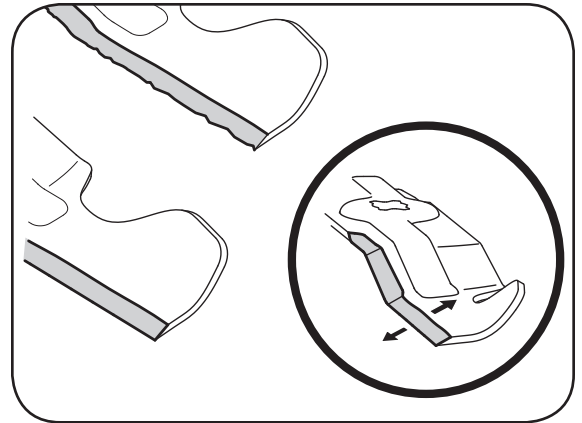

Figure 5-14
4. To properly sharpen the cutting blades, remove equal amounts of metal from both ends of the blades along the cutting edges, parallel to the trailing edge, at a 25° to 30° angle. See Figure 5-14.